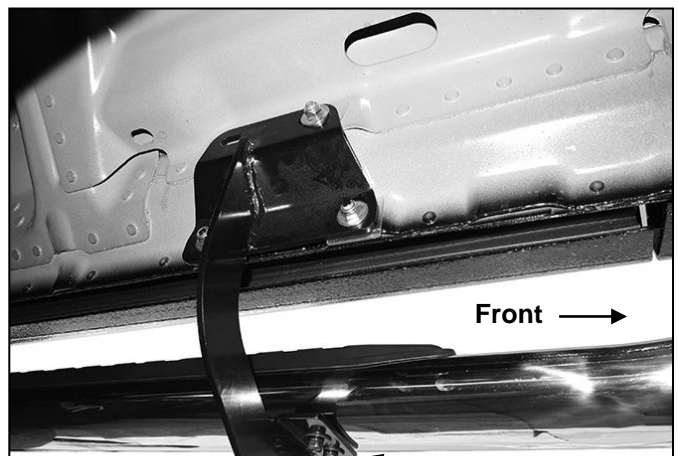

Fig 5
5. Select the Driver/left Side Step. **NOTE:** To determine correct Side Step, Step Pad is farther from front end of tube—see illustration on this page. Carefully position the Side Step onto the (2) Mounting Brackets. **IMPORTANT:** Do not slide, (front to back or rotate), the Side Step on the Brackets or damage to the finish may result. Attach the Side Step to the Mounting Brackets with (4) 8mm x 25mm Combination Hex Bolts, **(Figure 5)**. Do not tighten hardware.